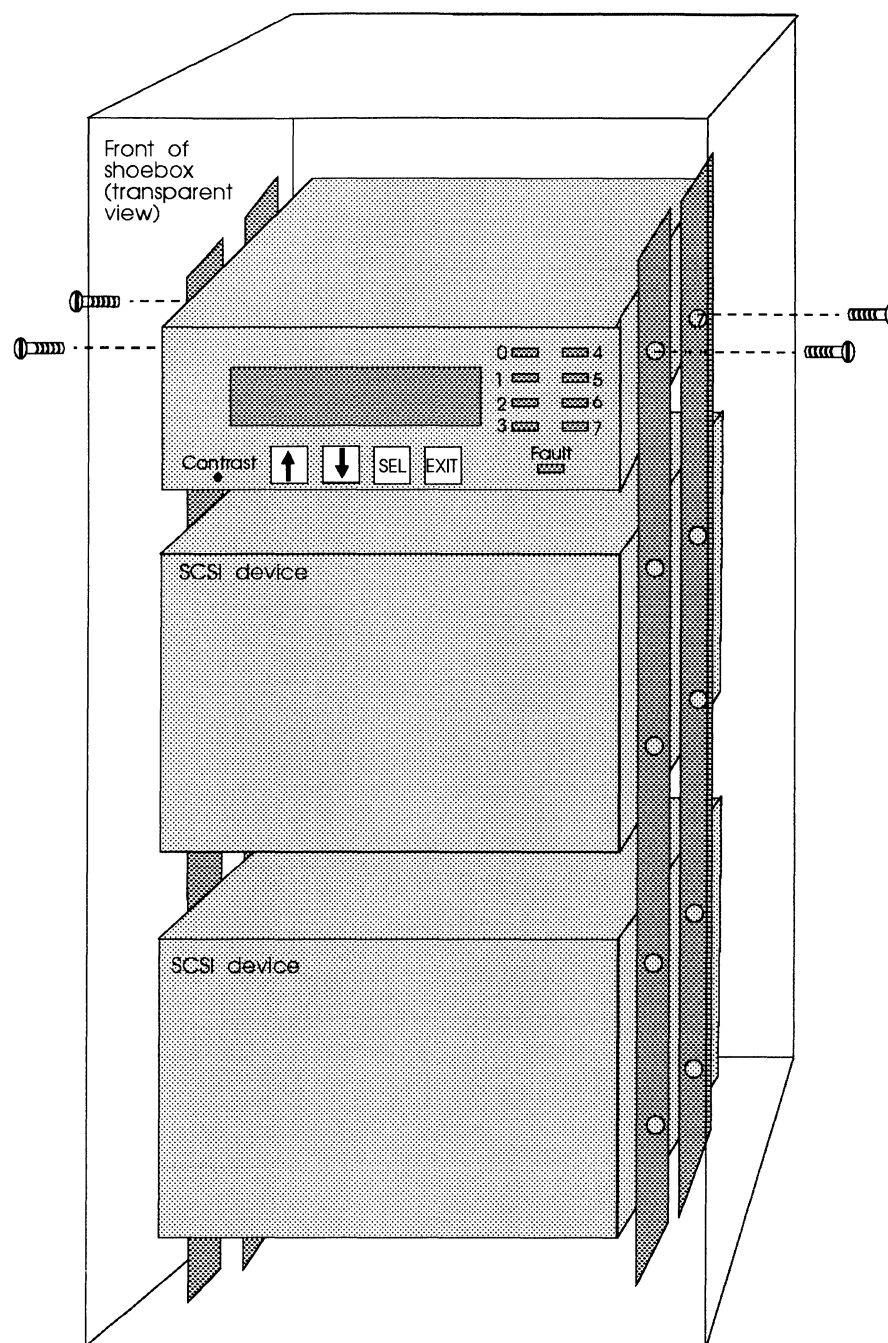

Figure 7-1: Mounting the CDI-4000
- 4 Mount the half-height LCD assembly into the shoebox and put four screws into the half-height LCD assembly through the shoebox; see Figure 7-1.